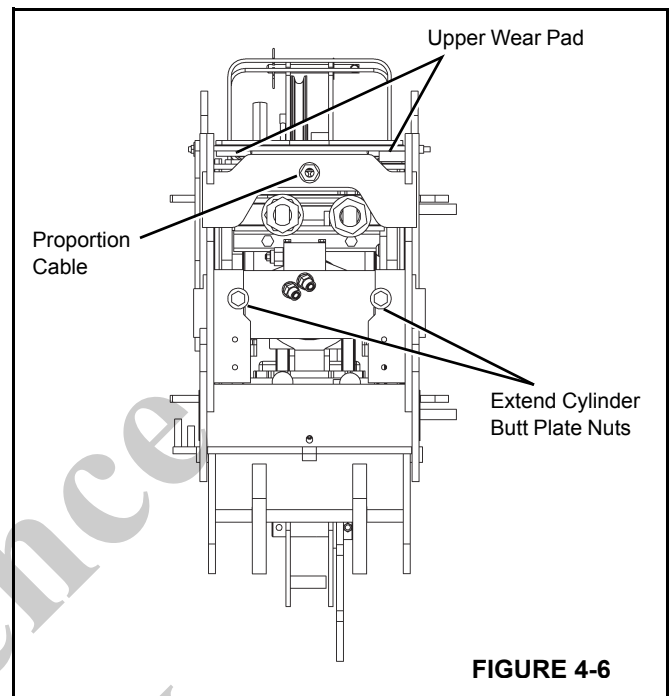

FIGURE 4-6
1. Remove the left and right upper wear pads in the rear between the 1st and 2nd boom sections (Figure 4-6).